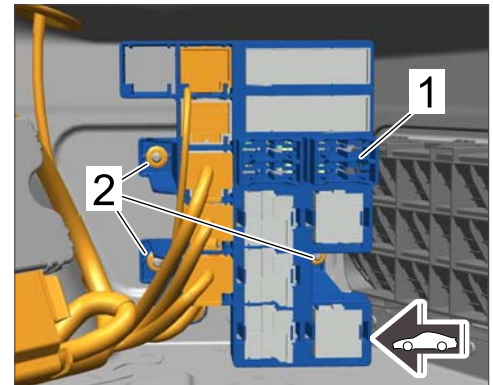

Figure 7
- 1.11.2 Unscrew fastening nuts ⇒ *Figure 7 -2-* and pull relay carrier for luggage compartment at the right ⇒ *Figure 7-1-* off the studs and set it down.